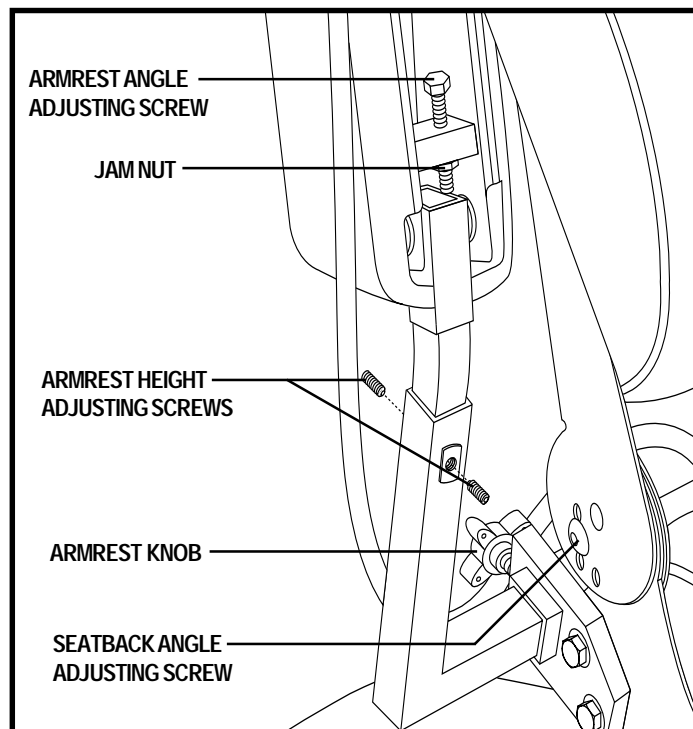

Figure 14. Armrest and Seatback Adjustments
1. Locate the two armrest knobs on each side of the armrest receiver bracket. See figure 14.
1. Lift the armrest straight up so that it is perpendicular to the floor. See figure 14.
1. Loosen the two setscrews located on the armrest receiver. See figure 14.
1. Remove the adjusting screws from each seat hinge. See figure 14.